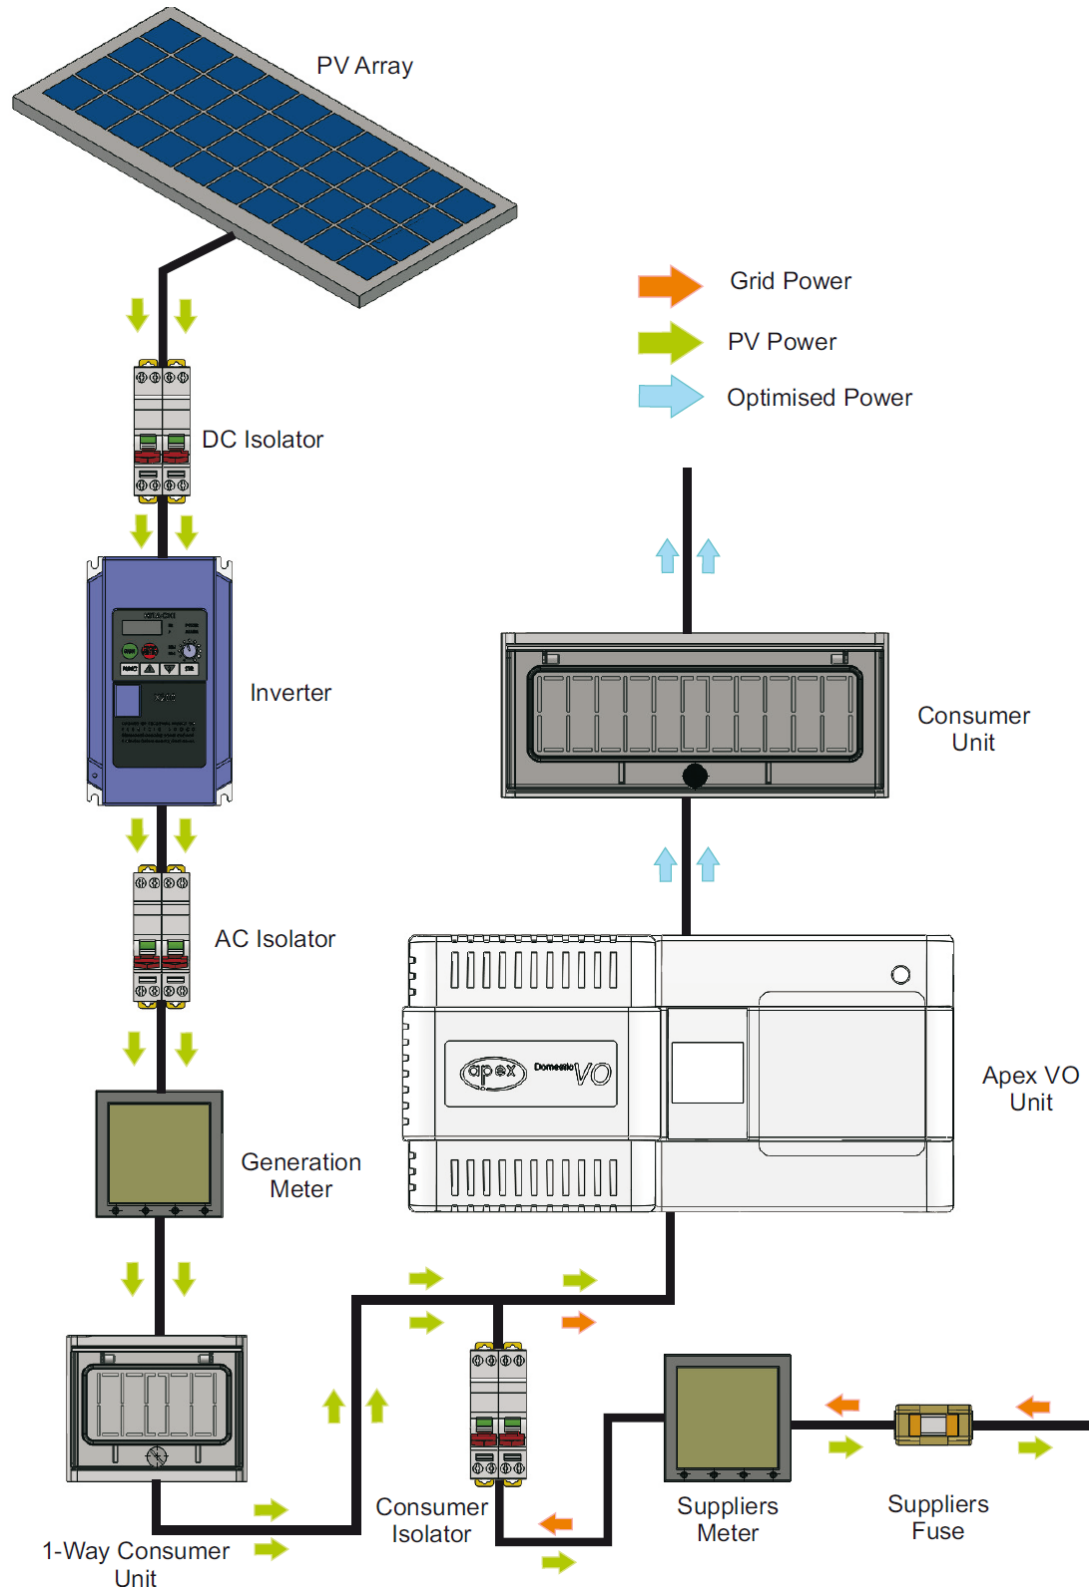

Figure 2: Typical installation with domestic PV solar power system
- The Voltage Optimiser is compatible with Solar PV installations however the electrical connection method **MUST** be in accordance with the scheme outlined in figure 2.
The configuration when integrated with a typical domestic PV installation is shown in Figure 2.